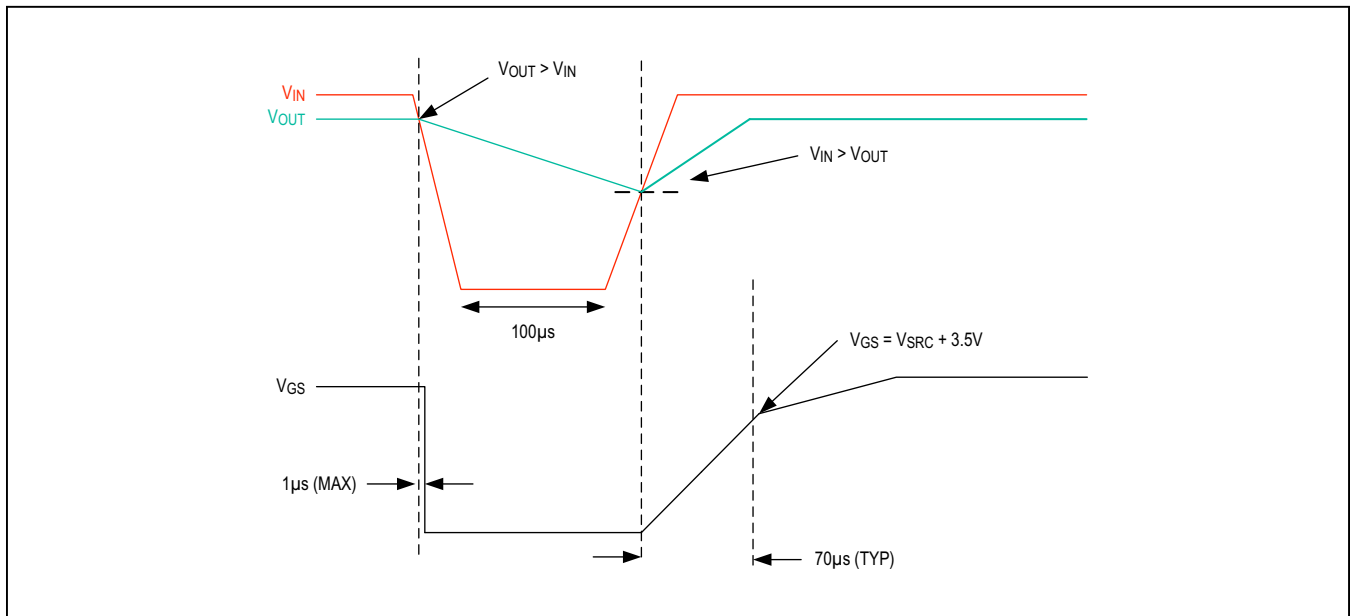

Figure 4. Short Power Interruption and Recover
In an automotive environment, systems usually experience brief power interruptions where the main supply is shorted to ground. The power interruption may last for several seconds; and the only source of power to system load is the output capacitance. To ensure fast recovery, an auxiliary input (V_{CC}) helps keep the MAX16141 standby mode for 100µs (typ). When the main supply input (IN) recovers, the MAX16141 initiates a fast recovery mode that allows the gate to reach its peak voltage within 70µs (typ). See Figure 4 for more detail. Therefore, brief power supply interruptions will not affect operation of the load,